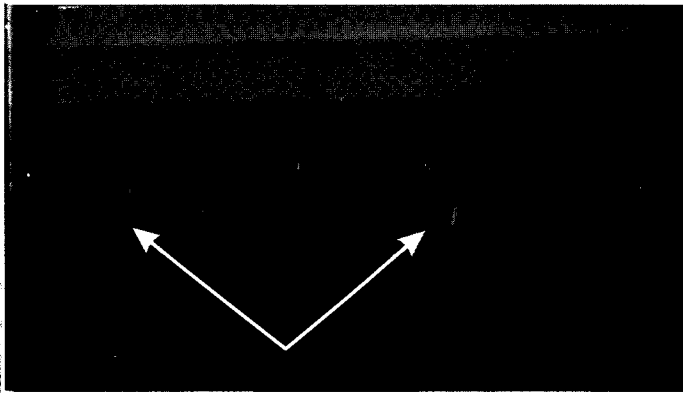

Figure 12
12. Install the bracket, 0121P00092, supplied with this kit, to the heater ports. Figure 12.